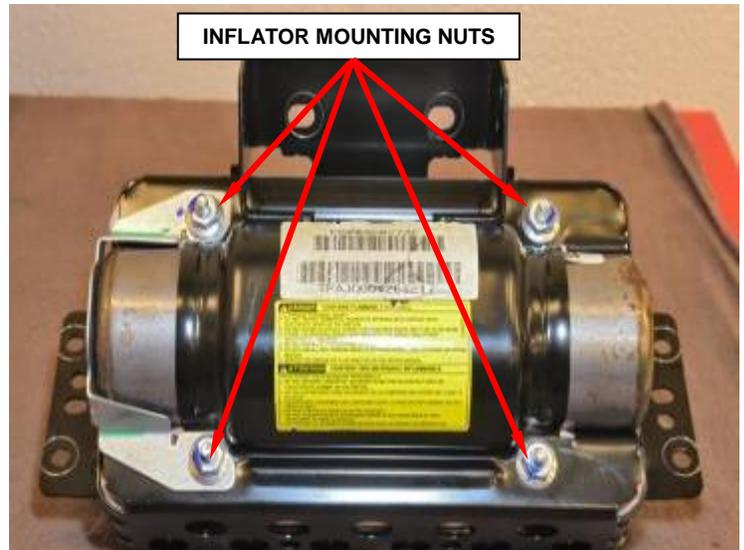

Figure 29 – Mounting Nuts
- b. Remove and **discard** the four inflator mounting nuts (Figure 29).